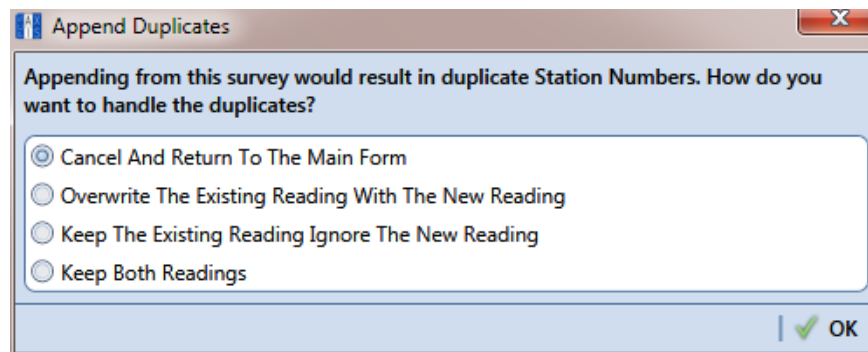

Figure 7-87. Append Duplicates
- 5 Click  **Survey Maintenance** to open the *Survey Maintenance* dialog box. Then click  **Append** (Figure 7-87).